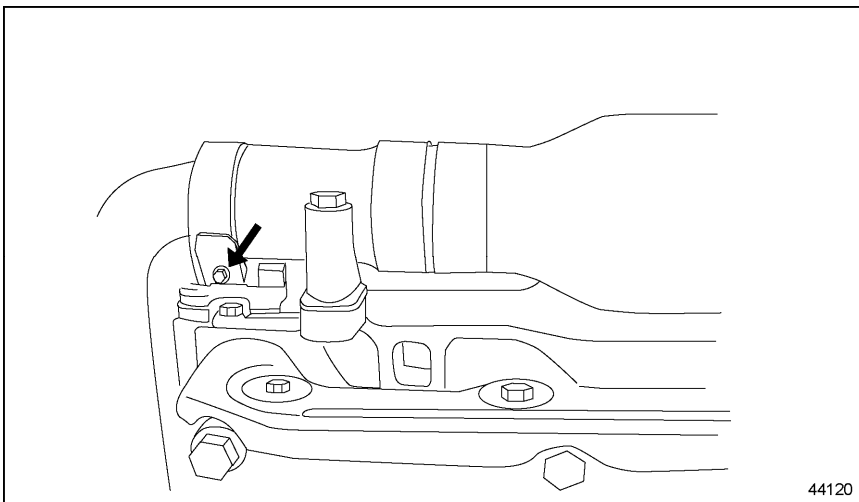

Figure 2 Positioning Clamp
2. Loosen and remove the bolt from the positioning clamp which holds the gas inlet pipe to the throttle shutoff valve and remove the clamp. See Figure 2.
17. Install the positioning clamp and hand tighten the bolt. See Figure 2.
20. Torque the positioning clamp to 12 N·m (9 lb·ft). See Figure 2.